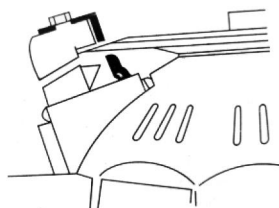

Figure 2
- 2) Open the safety cover(14). Move the Arm Frame(42) by swing the Manual Lever(66) from one side to the other side repeatedly.
- 3) Set the position of the blades until as if they are going to “bite” the carousel. See Figure 2.